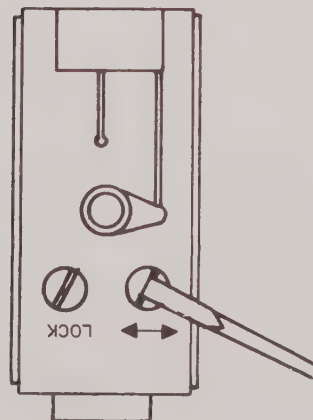

Figure 2-7. Lateral Alignment
2. If the pen does not rest on the center of the chart as in condition 1, figure 2-7, follow the steps below.
4. Using a screwdriver, rotate the adjust screw in desired direction until the pen appears as in condition 2, figure 2-7.